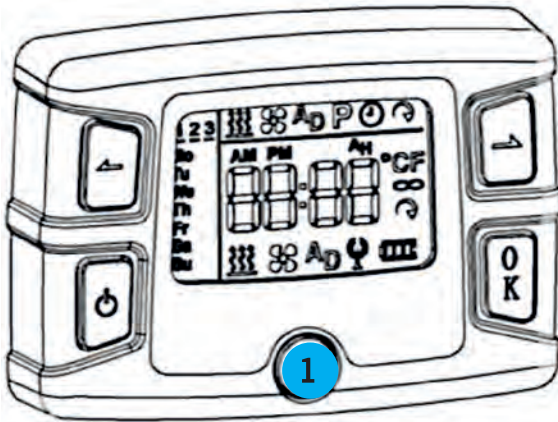

Fig. 43
Remove the knob Fig. 43 (1), to fix the controller with a screw.